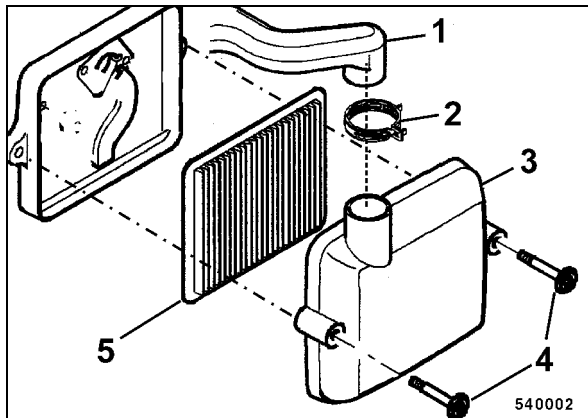

Fig. 62
- Loosen hose clamp 2 (Fig. 62) and pull the air supply hose (1) off the air filter housing.
- Unscrew two fastening screws (4) and remove cover (3) from the air filter housing.
- Pull the dry air filter cartridge (5) out of the housing.